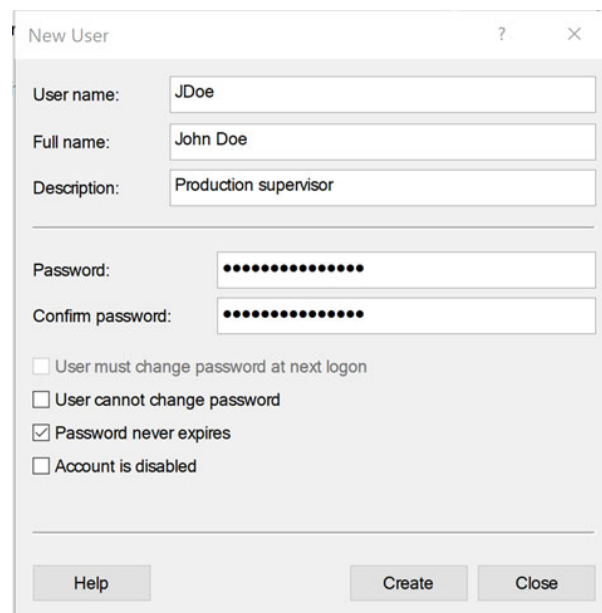

Figure 17: Creating a Local User
5. Enter the user credentials as desired. See Figure 17 as an example.